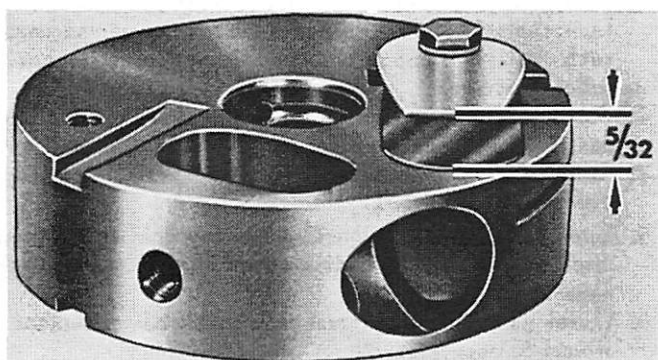

Figure 9. Adjusting Reeds
4. Check all 4 reeds for proper setting, setting reed rocker $5/32$ " from top of closed reed to bottom of rocker. (Figure 9)